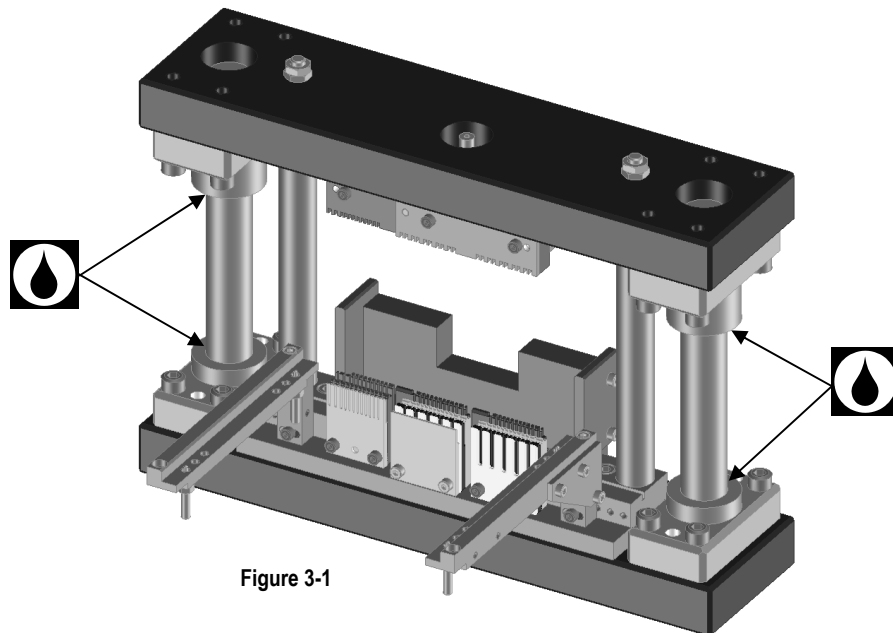

Figure 3-1
2. Lubricate all points shown in Figures 3-1 with the specified grease (or equivalent).